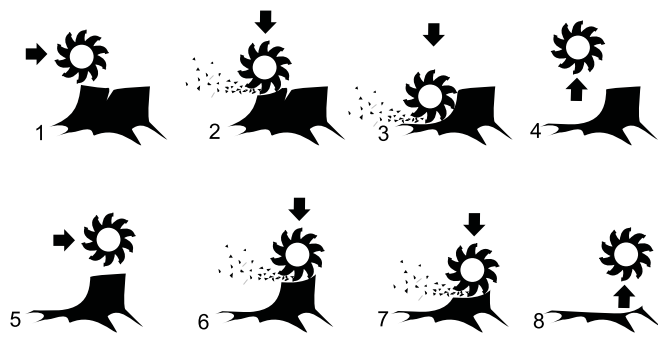

Figure 8
7. Swing the cutting wheel to one side, then lower it approximately 1/2 inch to 1 inch into the front-top corner of the stump. Swing the cutting wheel back and forth, lowering the cutting wheel approximately 1/2 inch to 1 inch before each sweep, until you have removed the front portion of the stump to ground level (Figure 8).